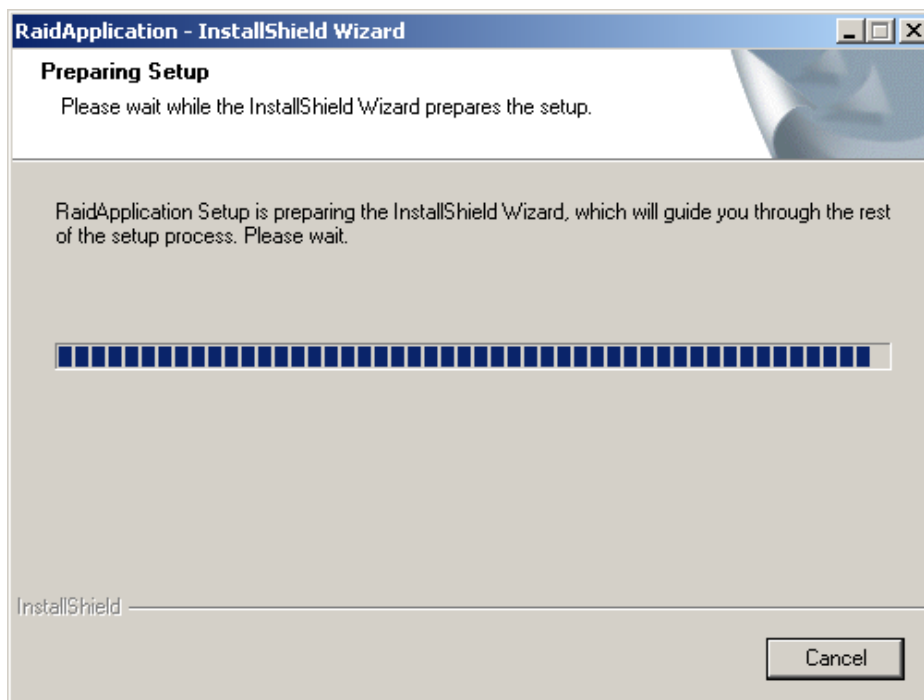

Figure 6-29: Preparing Setup
Step 5: The **Preparing Setup** window appears next (**Figure 6-29**).